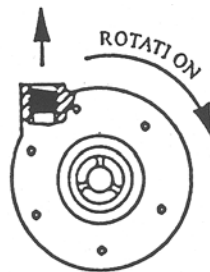

Figure 1: Direction and Port Location
3) When the pump is ready to run, bump start the motor to check rotation and configuration. (see **Figure 1**). Operating the pump in reverse rotation will result in reduced performance, and will damage the pump.